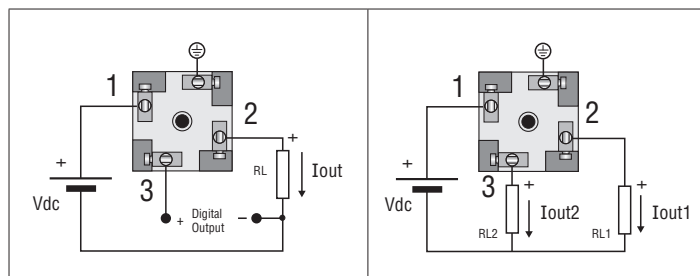

Fig. 7 - HD2601V.1
Remove the gasket (1). Unscrew the fairlead (5) and take off the gasket (4). Use a screwdriver to pry and take off the connecting terminal (2). Make the connections as shown in the Fig. 7 and 8: if present, the shielded cable braid must be connected to the earth terminal.